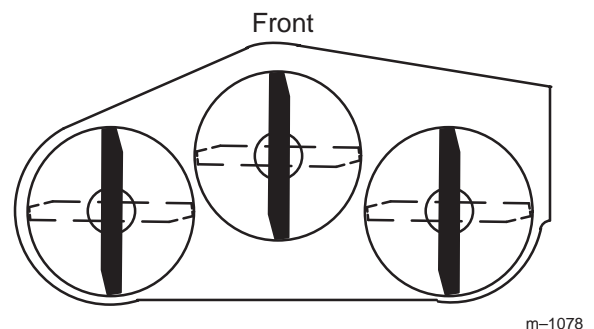
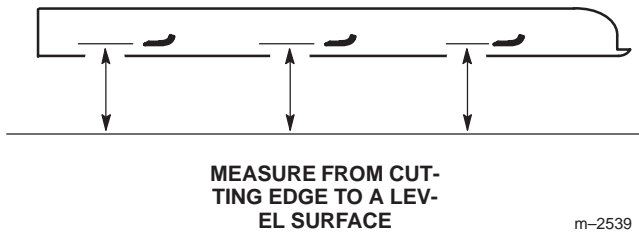

Figure 27
Figure 28
1. Rotate the blades until the ends face forward and backward (Fig. 27). Measure from a level surface to the cutting edge of the blades (Fig. 28). Note this dimension.